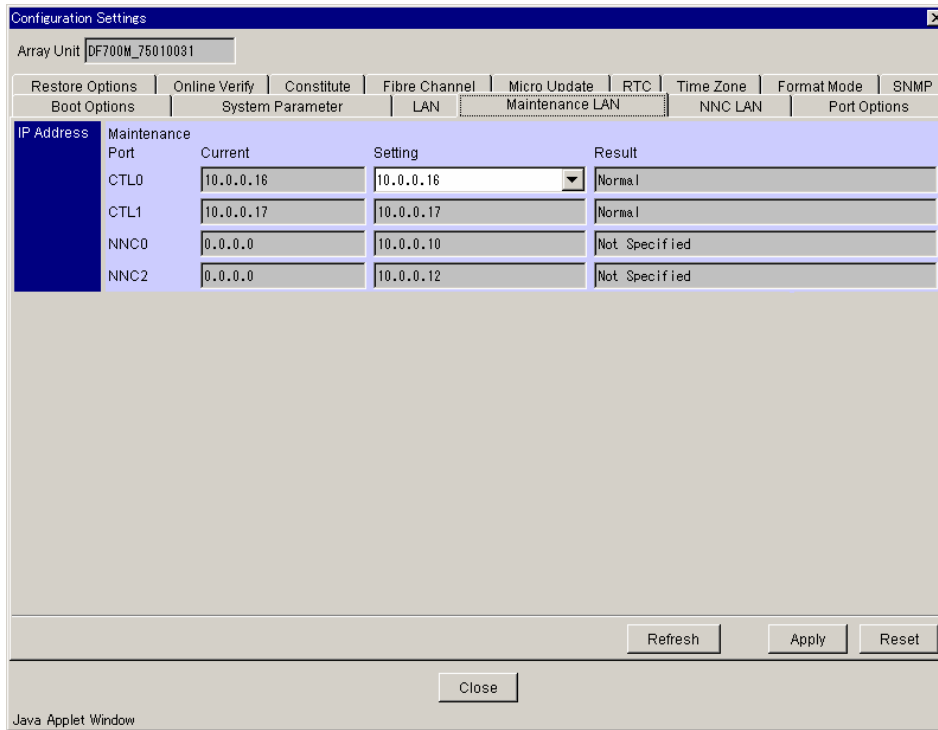

Figure 9.17 Configuration Settings - Maintenance LAN Panel
2. Click the **Maintenance LAN** tab. See Figure 9.17.